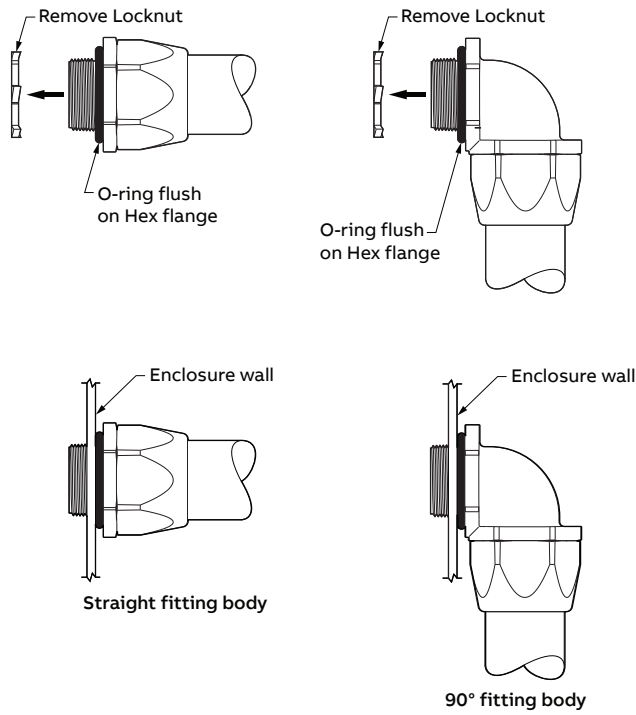

Figure 5
5. Remove locknut, retain O-ring flush to Hex flange and attach assembled fitting to enclosure wall, see Figure 5.